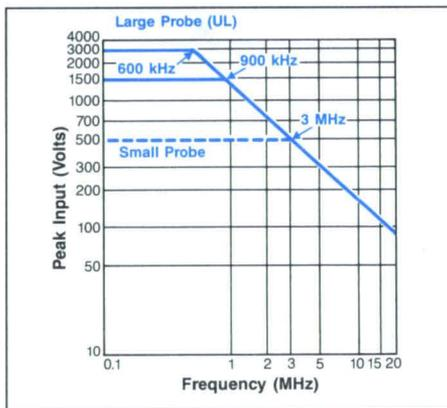
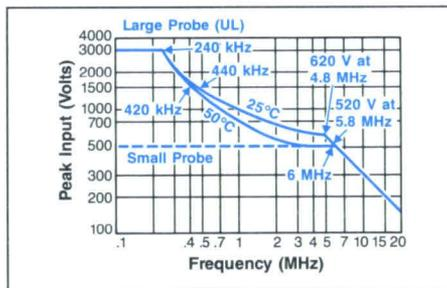

Figure 1. Maximum working voltage between probe input and probe common (all temperatures).
Figure 2. Maximum working voltage between probe common and earth ground.
**Small Probe (500 V)**—Probe Center Tip to Earth Ground: 500 V (dc + peak ac). Probe Center Tip to Probe Common: 500 V (dc + peak ac) to 3 MHz. See Figure 2 for voltage derating above 3 MHz. Probe Common to Earth Ground: 500 V (dc + peak ac) to 6 MHz. See Figure 2 for voltage derating above 6 MHz.
**Large Probe (DC Coupled)**—Probe Center Tip to Earth Ground: UL 3000 V. Probe Center Tip to Probe Common: UL 3000 V (dc + peak ac) to 450 kHz. See Figure 1 for voltage derating above 900 kHz. Probe Common to Earth Ground: UL 3000 V (dc + peak ac) to 250 kHz. See Figure 2 for voltage derating above 250 kHz.